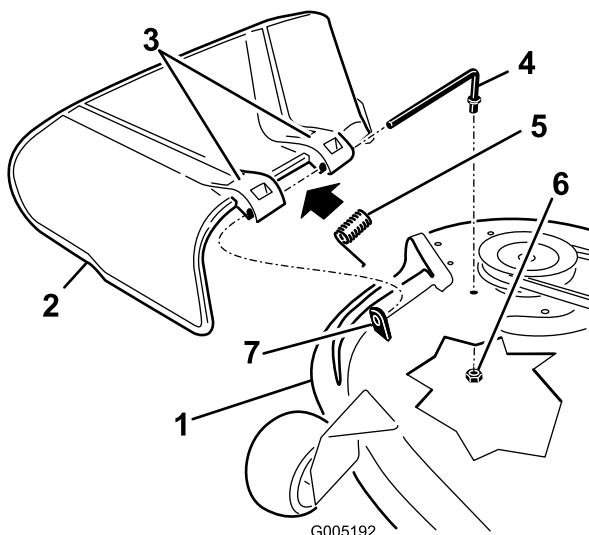

Figure 61
1. Locate items shown in Figure 61.
2. Remove the nut (3/8 inch) from the rod under the mower (Figure 61).
3. Slide the rod out of the short stand-off, spring, and grass deflector (Figure 61). Remove the damaged or worn grass deflector.
4. Replace the grass deflector (Figure 61).
6. Place the spring on the rod, with end wires down, and between the grass deflector brackets. Slide rod through second grass deflector bracket (Figure 61).
7. Insert rod at front of grass deflector into short stand-off on deck. Secure rear end of rod into the mower with a nut (3/8 inch) (Figure 61).